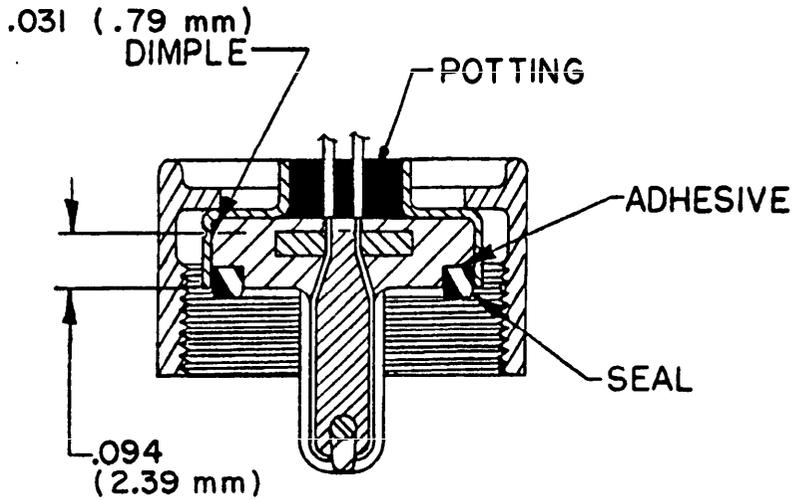

FIGURE 7. Potting and seal installation.
- H. Allow 4 hours to cool, move shell onto body, dimple shell with a spring-loaded punch to keep shell on molded body. Dimples must be 120 degrees apart and 0.094 inch from front rim of shell. See Figure 7 (Potting and Seal Installation).
- I. Apply potting compound around and between the cables at the rear of the plug. See Figure 7, (Potting and Seal Installation).
- J. Apply adhesive to groove around plug body and carefully seat the seal into the groove. See Figure 7 (Potting and Seal Installation).